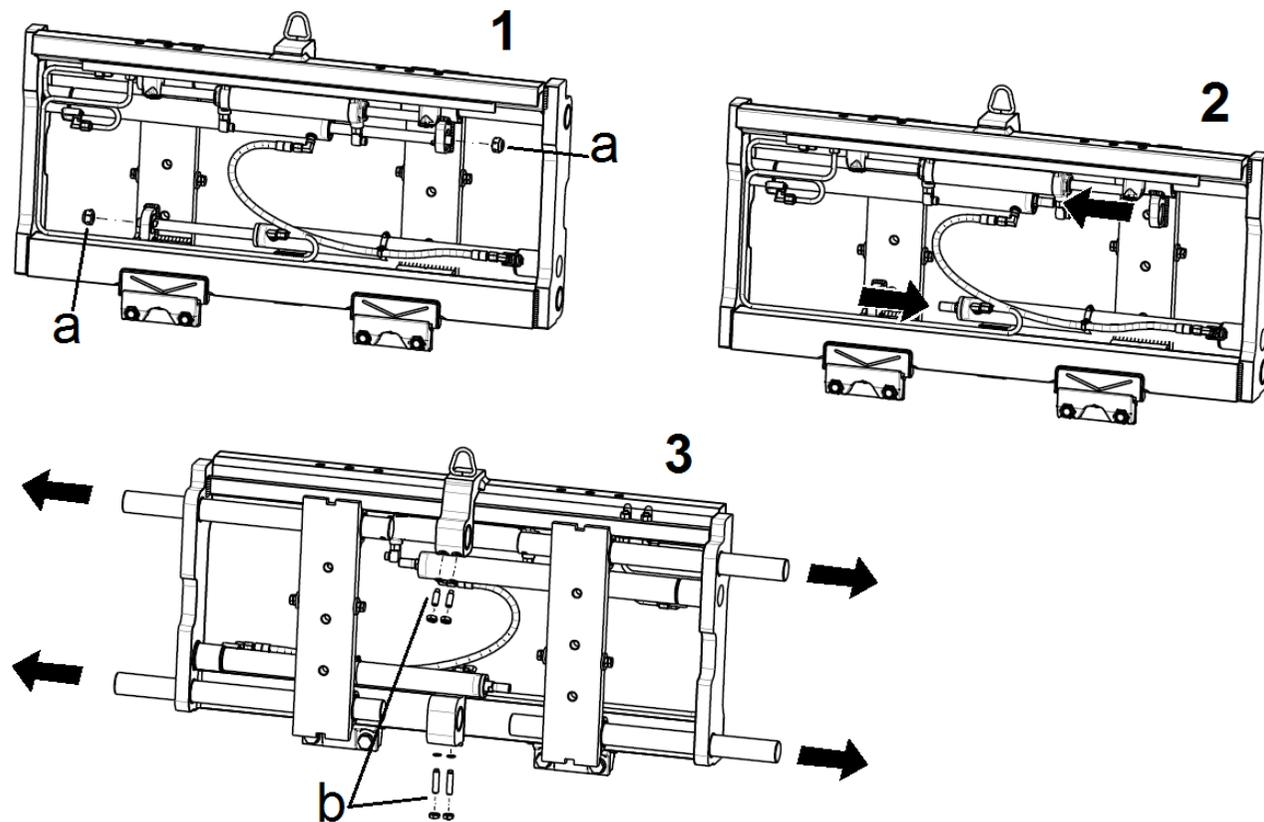

Fig. 038
7.4.3. **Remove the nuts from the cylinder rod "a", Fig. 038 (ISO 3318 19 mm wrench loads up to 3.6 t, 22 mm for 5 t and 27 mm for class 4 to block the rod, and ISO 1174 27 mm socket wrench loads up to 3.6 t, 30 mm for 5 t and 36 mm for class 4, to loosen the nut).**
7.4.6. **Remove the screws and nuts from the chromed bars "b", Fig. 038, from the central steam heads (ISO 3318 19 mm wrench for the nuts and ISO 3926 6 mm wrench for the screws).**